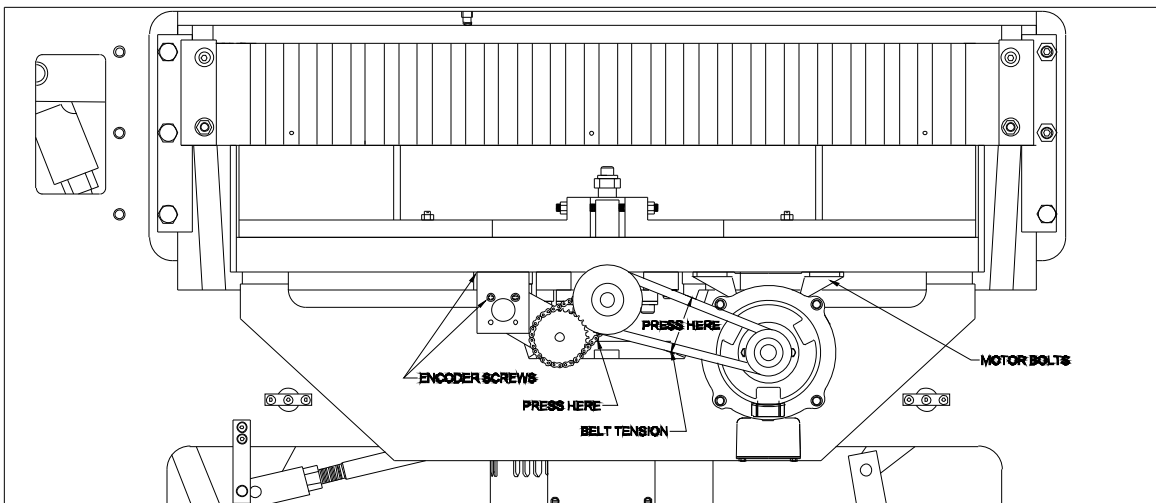

Fig 32
Proper drive belt tension for Digital (D) models is 1" of deflection when pressed together between the pulleys. Fig. 32.
Proper drive belt tension for MPS models, 320 Serial Numbers up to 10687 and 265 Serial Numbers up to 1222, is 1/2" to 1" apart. Fig. 32.
To Adjust: Fig. 32.
To Adjust MPS Models: Fig. 32.